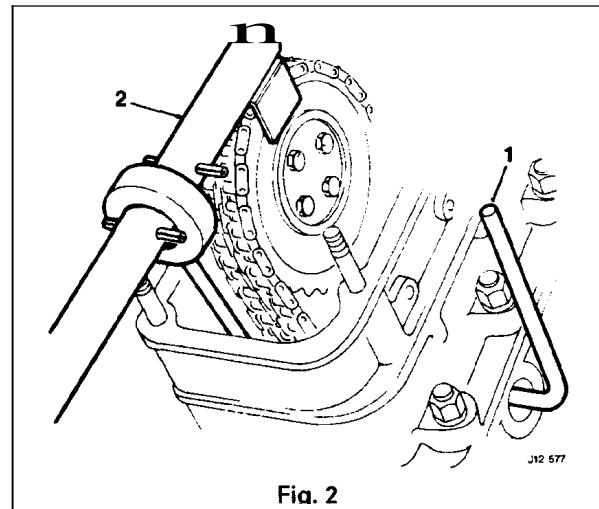

Fig. 2
- Release the chain tension by fitting Service Tool JD 50 (chain tension retainer) (2 Fig. 2), raising the timing chain tensioner slightly, and then inserting Service Tool JD 50 (ReleaseTool) (1 Fig. 2) through the timing cover and releasing the locking catch which allows the tensioner to expand.